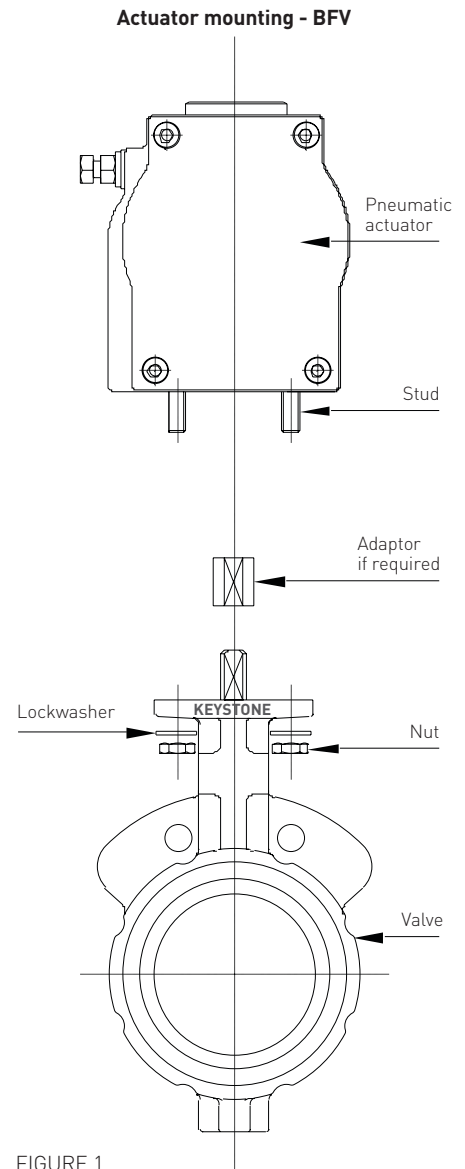

FIGURE 1
- 2b. Screw the actuator mounting studs tightly into the actuator base and secure the mounting bracket to the underside of the actuator using four nuts and washers as shown in Figure 1.